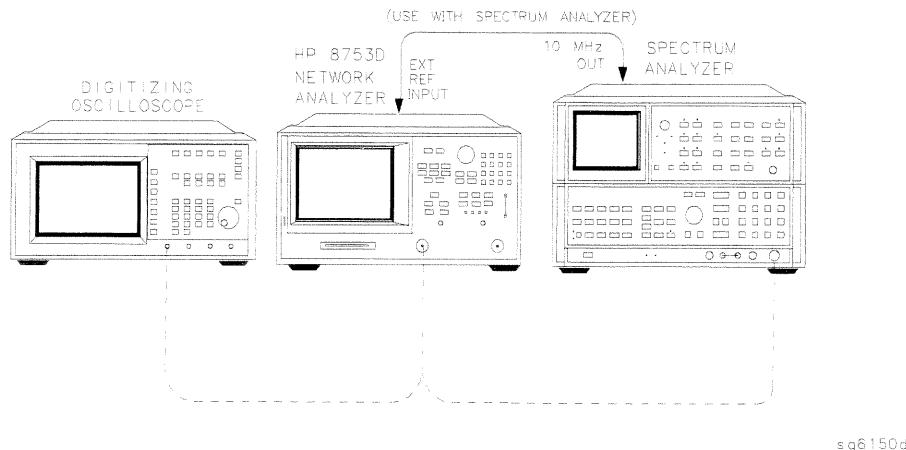

Figure 7-1. Basic Phase Lock Error Troubleshooting Equipment Setup
Troubleshooting tools include the assembly location diagram and phase lock diagnostic tools. The assembly location diagram is on the underside of the instrument top cover. The diagram shows major assembly locations and RF cable connections. The phase lock diagnostic tools are explained in the “Source Group Troubleshooting Appendix” and should be used to troubleshoot phase lock problems. The equipment setup shown in Figure 7-1 can be used throughout this chapter.
1. Connect the oscilloscope or spectrum analyzer as shown in Figure 7-1. (Set the oscilloscope input impedance to 50 ohms.)